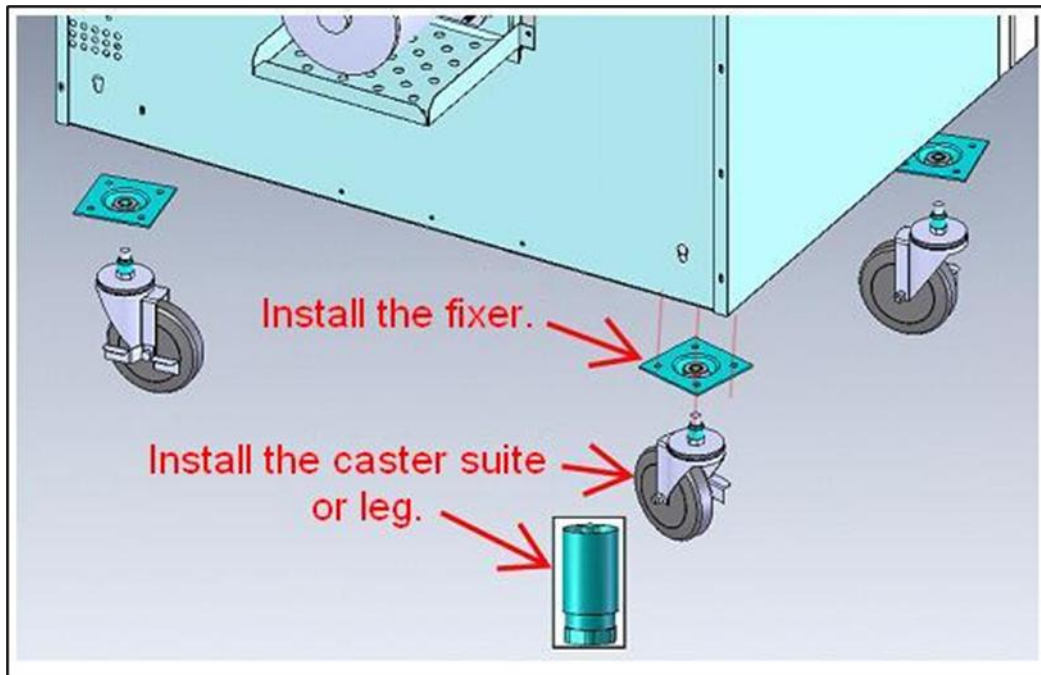

Fig.2
2. During stacking, replace the long legs with 6" legs or casters as indicated in Fig.2.